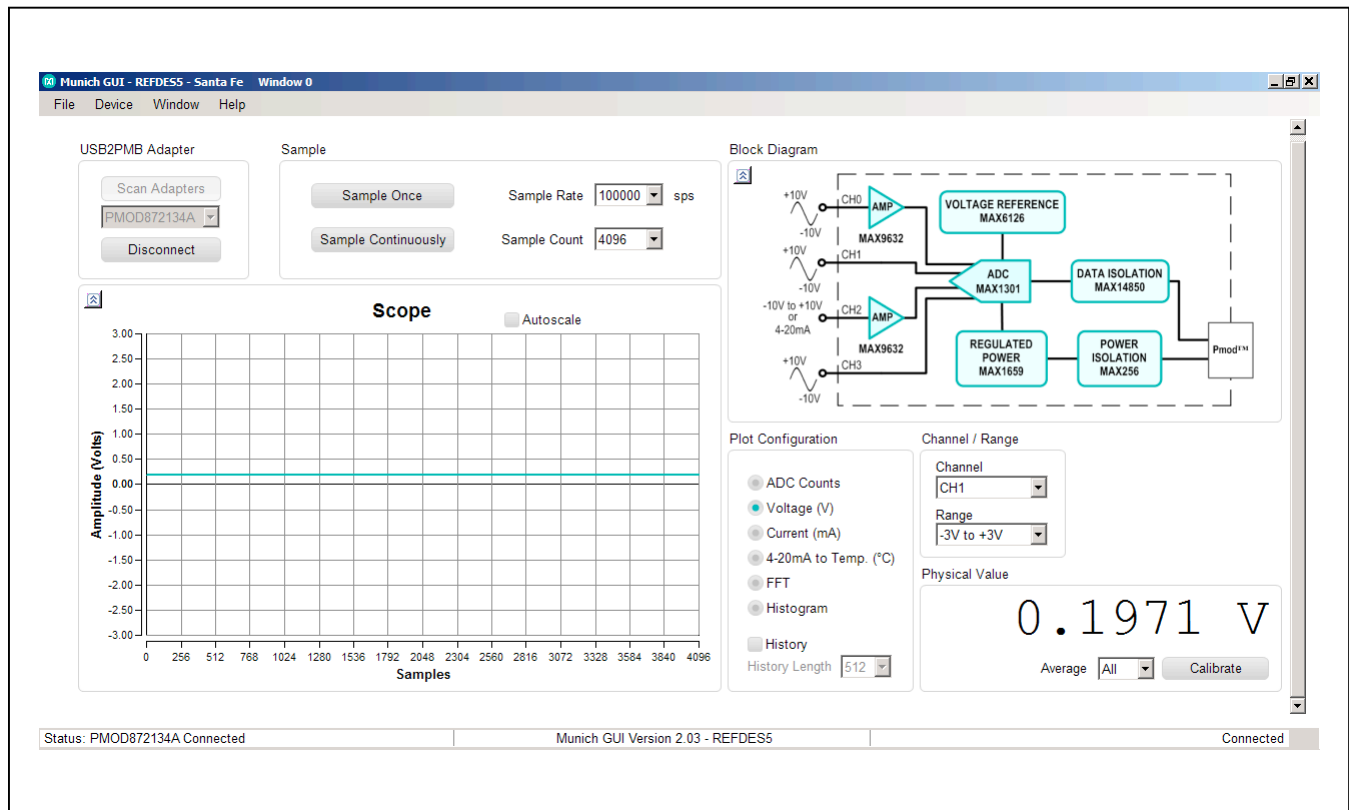

Figure 12. Munich/Santa Fe GUI
- 1) **Selecting Channel/Range:** Refers to the block diagram present at the right side of the GUI, which describes four different channel input options. Checking the right input and right input range at the GUI translates the input channel and its data range at the board. Each channel input has seven different input range options for selection. See Figure 12.